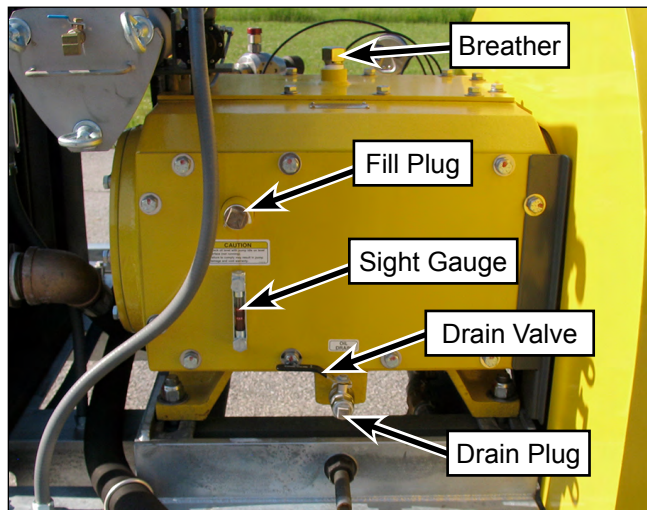

Figure 103: Non-2000 Series Rear Plate Components.
1. Locate the sight gauge (Figure 103) on the back of the power end case. With the pump off (for 5 to 8 hours), the oil should be at the Full level.
- For non-2000 series pumps, the typical oil level for a pump that has been operating and then brought to a stop is shown in (Figure 103). The oil level will be at or near the full mark only after the pump has been at rest for 5 to 8 hours.